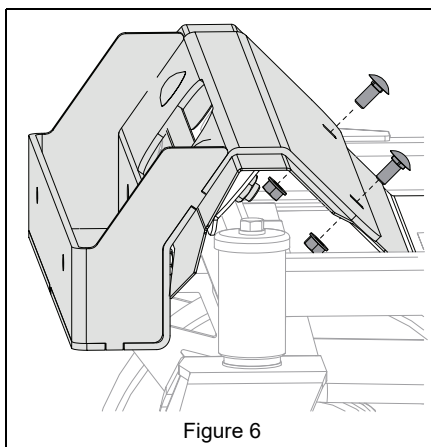

Figure 6
5. Install two 5/16" x 3/4" round head square neck bolts removed earlier through the two holes on the back of footrest/weight tray assembly. Secure assembly to chassis with two 5/16" center locking flange nuts removed earlier. See Figure 6.